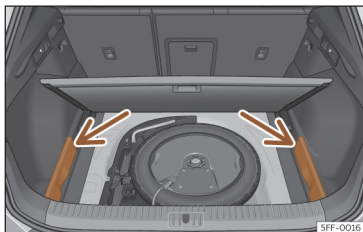

Fig. 184 In the boot: covers for storing the rear shelf.
- Remove the left and right covers >>> **Fig. 184**.